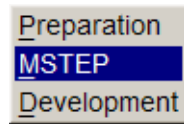

Figure 3.10: BSE menu
1. select menu **BSE**→**MSTEP** to open the MSTEP solution module. See figure 3.10.